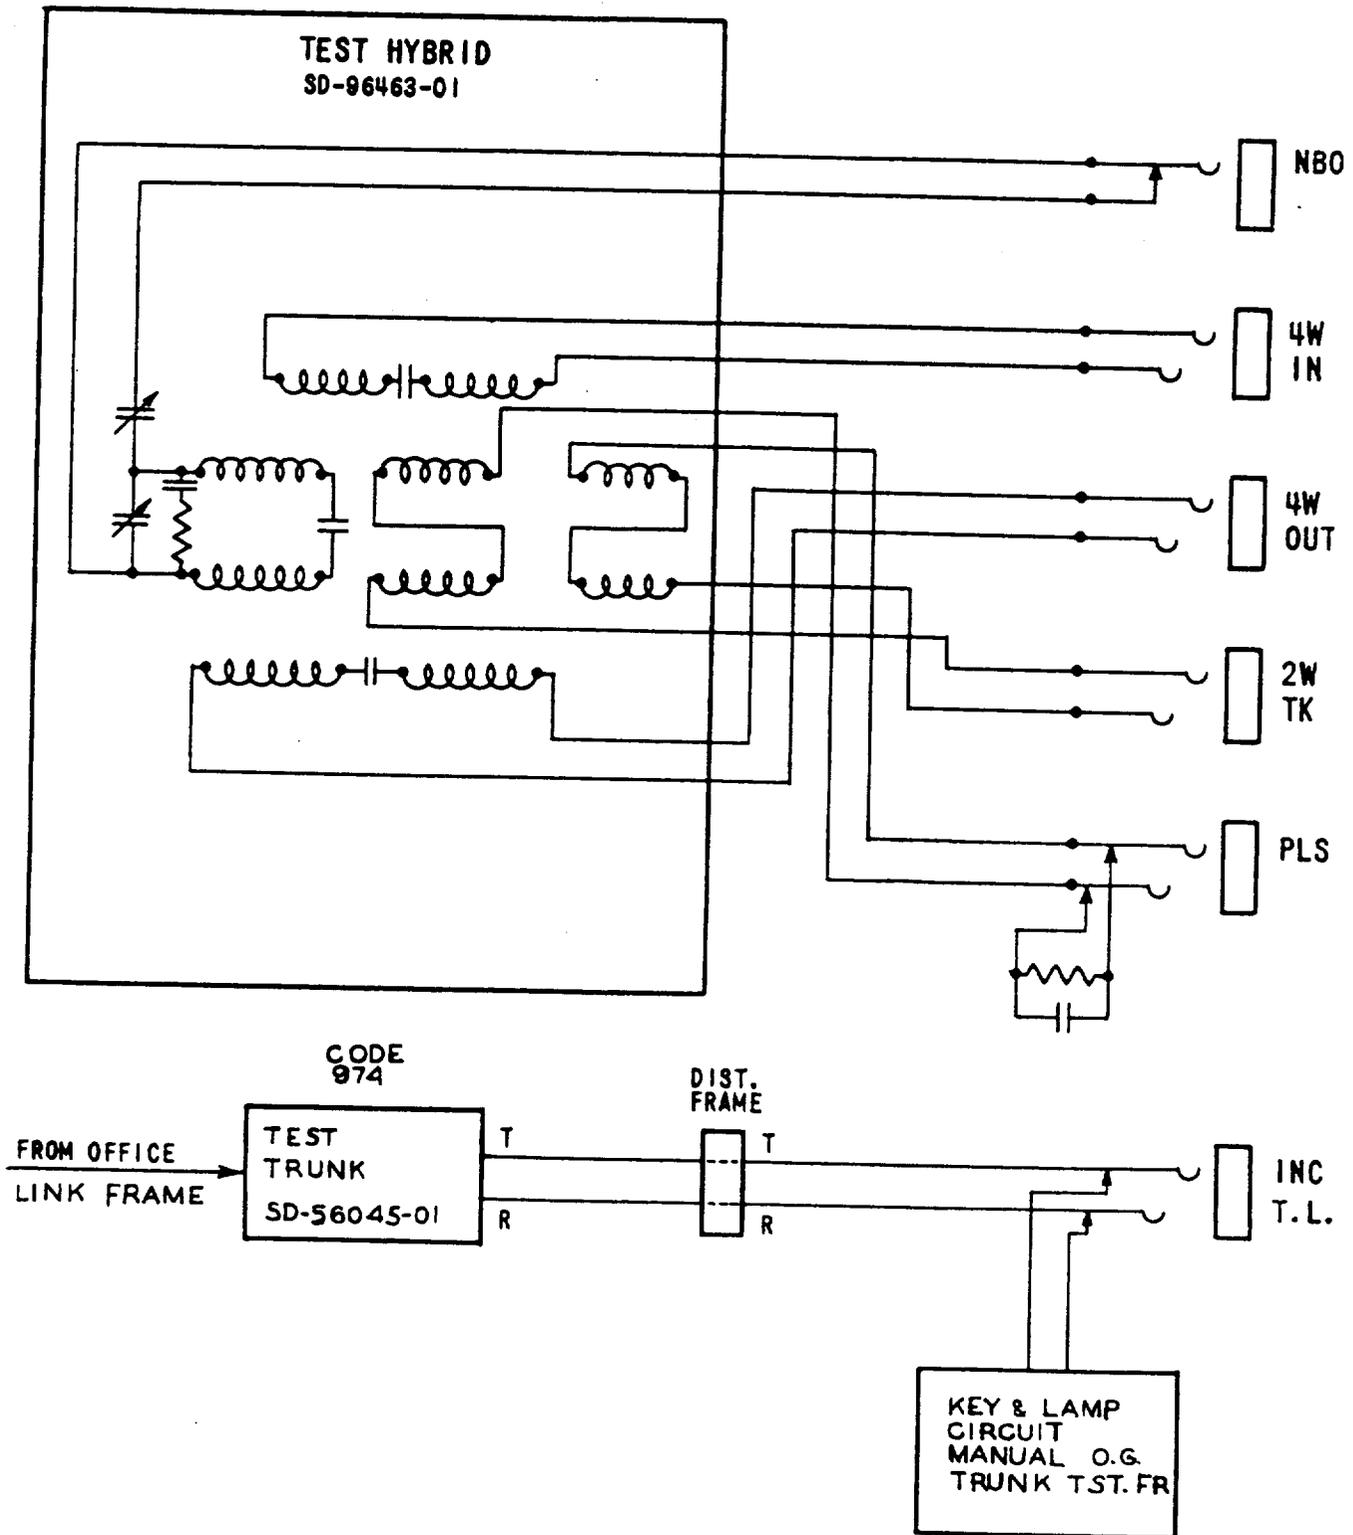

Figure 1 - Return Loss Test Equipment Arrangement
1.04 A drawing of the return loss test equipment arrangement at the outgoing trunk test jack bay is shown in Figure 1.